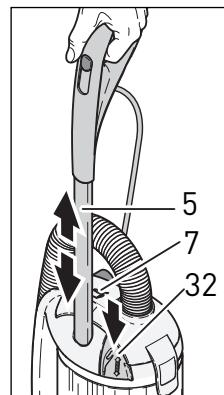

Figure 4
2. Adjust the telescopic handle tube (5) to the correct height by pulling out the handle release lever (32) and gently pulling the tube out to lengthen, or pushing it in to shorten. The tube will click into place when it reaches one of the three lengths available. Release the tab. If the tab does not fit snugly in place, the tube is set at an incorrect setting. Pull or push the tube until it locks into one of the three settings - see figure 4.
Full Bag or Clog Indicator - Figure 4
When a full bag, a clog in the airflow pathway, or an excessively dirty microfilter is detected, an indicator gauge on the bag housing lid (7, figure 4) “fills” with orange color. The user should turn the switch off, unplug the machine and immediately insert a new bag or remove the clog (to remove a clog, refer to the Clog Removal section on page 12). If the airflow is still restricted, the “BAG FULL OR CLOG” indicator will again display orange to indicate a clog. If the clog is not removed, a bypass valve will open to allow more air into the motor compartment to keep the motor cool.